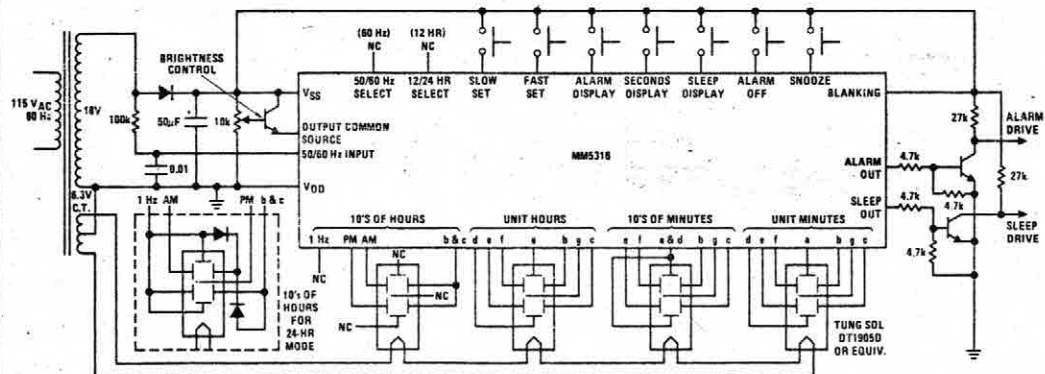

FIGURE 6. Schematic
**50 or 60 Hz Input (pin 35):** A shaping circuit (*Figure 3*) is provided to square the 50 or 60 Hz input. This circuit allows use of a filtered sinewave input. The circuit is a Schmitt Trigger that is designed to provide about 6V of hysteresis. A simple RC filter, such as shown in *Figure 6*, should be used to remove possible line-voltage transients that could either cause the clock to gain time or damage the device. The shaper output drives a counter chain which performs the timekeeping function.
fluorescent tube displays,  $V_{SS}$  or a display brightness control voltage is permanently connected to this pin. Since the brightness of a fluorescent tube display is dependent on the anode (segment) voltage, applying a variable voltage to pin 23 results in a display brightness control. This control is shown in *Figure 6*.
Figure 6 is a schematic diagram of a general purpose alarm clock using the MM5316 and a fluorescent tube display.